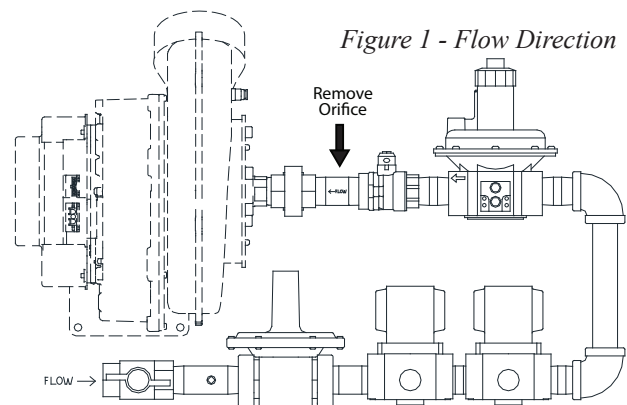

Figure 1 - Flow Direction
2. Remove orifice closest to the burner (See Figure 1), and replace with the orifice supplied in the conversion kit. Ensure that the orifice is facing so that the brass piece is closest to the burner.